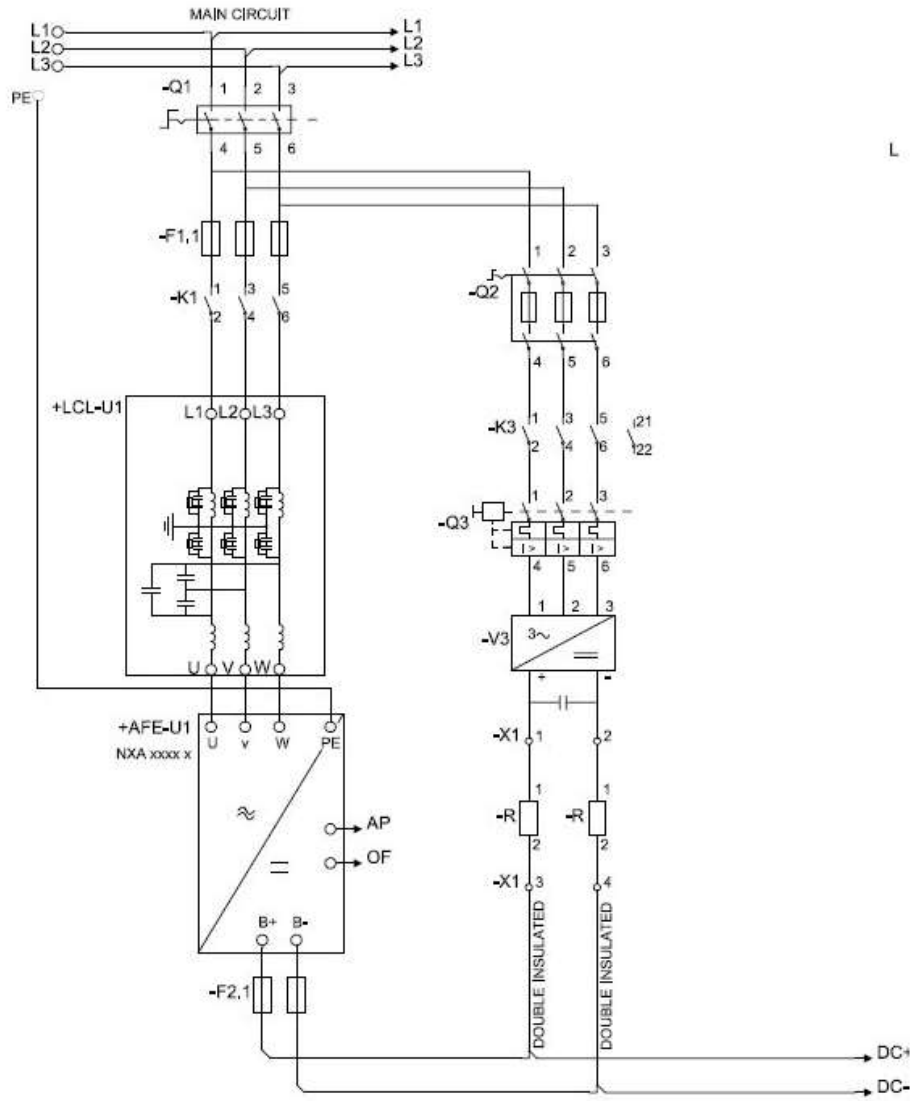

Figure 4. Connection
The Grid Converter is utilised by using AFE hardware with special software. An external LC(L)-filter and charging circuit is needed. This unit is selected when low harmonics are required. The principle connection of AFE drive has been described in Figure 4.
1. Connect the unit according to the Figure 4.